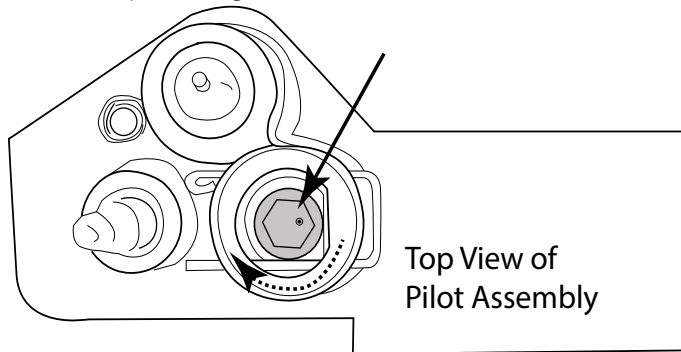

Fig. 8 Shows slot inside pilot orifice
Step 9: Insert a 4mm hex head (allen wrench) into the octagon hole of the brass orifice inside the pilot assembly and turn clockwise until it stops (approximately 2 full revolutions). See Fig. 8.